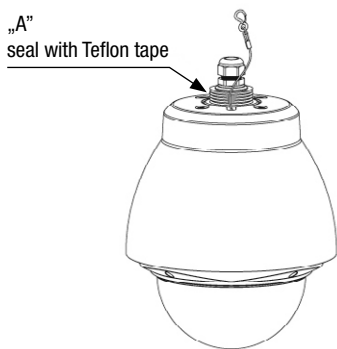
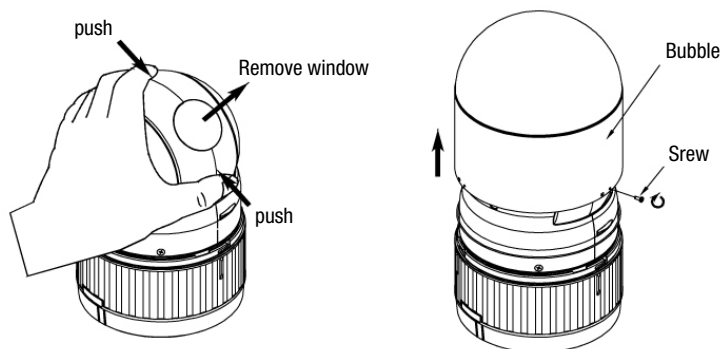

Fig. 1
Fig. 2: Remove the window and the bubble ring ass'y
2.	Wind Teflon tape around the screw thread „A” of the pipe (respectively approx. 20 wraps). See fig. 1
3.	Push all required cables through PG (4).
5.	Connect the power connector of 24VAC of the cables to „AC IN” of fan & heater board (23).
7.	Fasten the Dome Base on the screw spacer (18) using 3 screws (M4xL8).
8.	Attach the Dome Body to the Dome Base. After aligning the arrow mark of the Dome Base with the unlock mark of the Dome Body, turn the Dome Body to the lock mark direction. NOTE: It is recommended, not to assembly the dome enclosed with the camera and to remove the window in front of the lens (refer to fig. 2).
9.	Insert the rubber gasket (7) into the body (6) and fasten the bubble ring (11) to the body (6) using 3 screws (13).